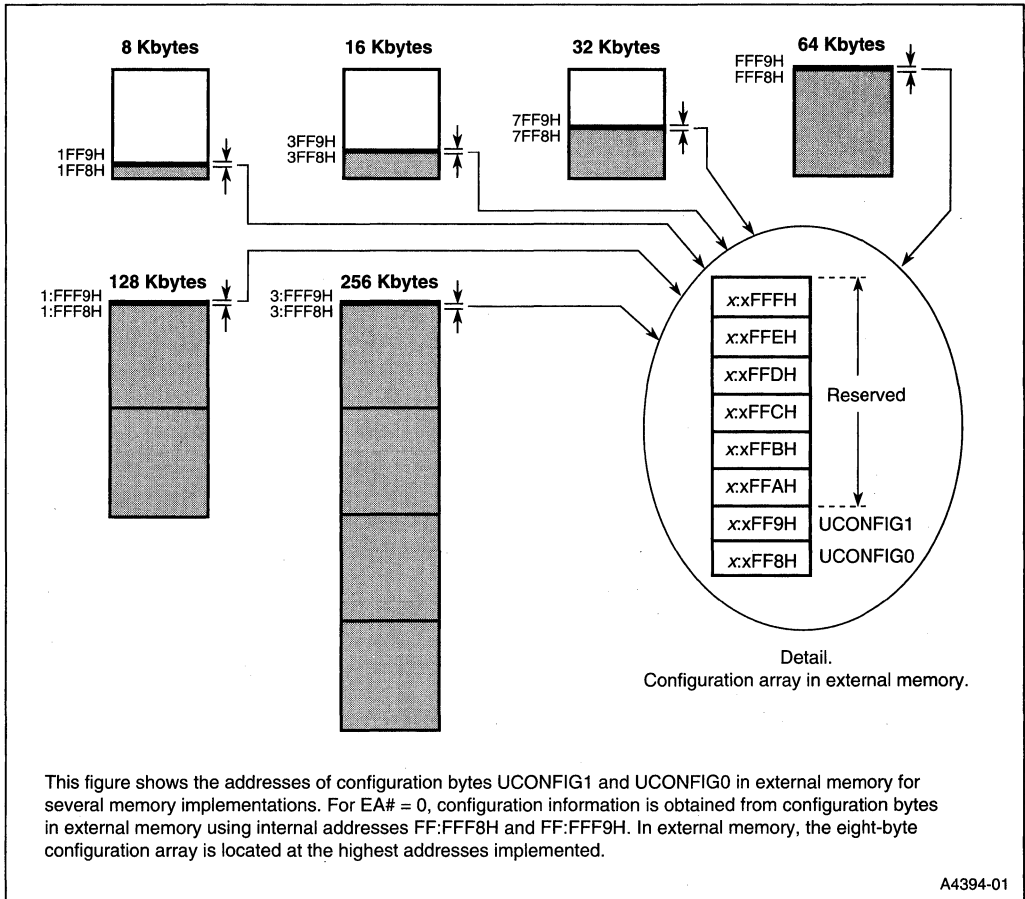

Figure 4-2. Configuration Array (External)
For devices without on-chip program memory, configuration information is accessed from external memory using these same addresses. The designer must store configuration information in an eight-byte configuration array located at the highest addresses implemented in external code memory. See Table 4-1 and Figure 4-2. When EA# = 0, the microcontroller obtains configuration information at reset from external memory using internal addresses FF:FFF8H and FF:FFF9H.
1. When EA# = 0, the reset routine retrieves UCONFIG0 and UCONFIG1 from external memory using the internal addresses FF:FFF8H and FF:FFF9H which appear on the external address bus (A17, A16, A15:0) as shown in this table. See Figure 4-2.